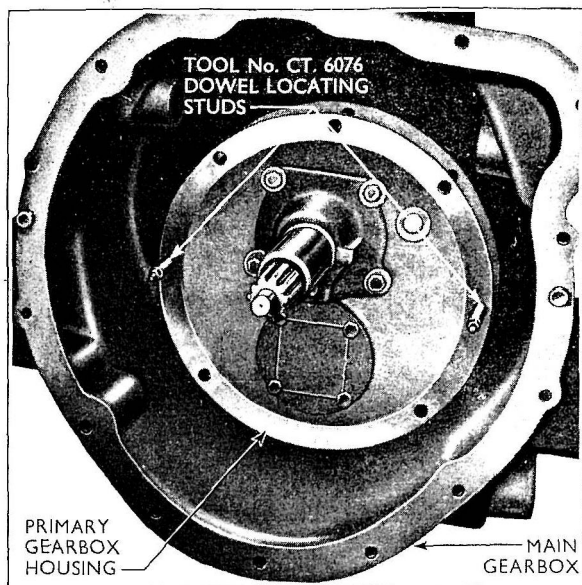

Fig. 24
7. Move the primary gear lever to the opposite position and, using locating studs C.T. 6076 in the right and left centre screw holes, slide the primary gearbox assembly forward out of the main transmission housing approximately 2 inches. It will then be possible to slide the connector lever from the primary gear change upper shaft and withdraw it from the housing. Remove the primary gearbox assembly (see Fig. 24).
NOTE. — Jointing compound (Part No. EM-4G-47) should be applied to the gasket between the two lower bolt holes. (See Fig. 24.)